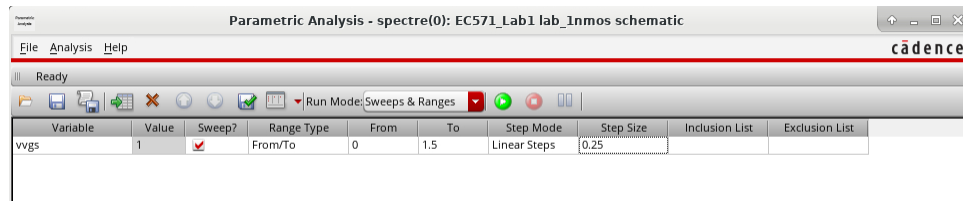

Figure 30: Setting up parametric analysis
2. To sweep V_{GS} , in the “ADE L” window, go to Tools → Parametric Analysis. Set up parameters for “vvgS” as in the Figure 30. Click the green button “Run Selected Sweep” to run the parametric simulation.